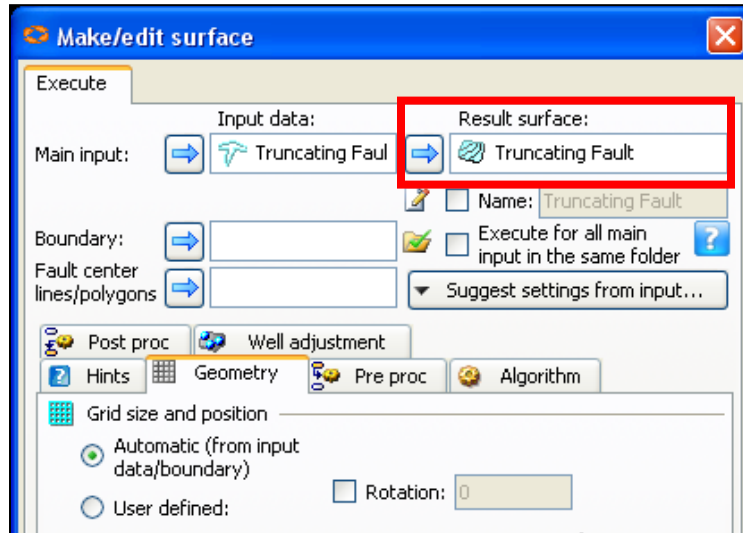

Fig.9.13: The Make/edit surface after adding the **Truncating fault polygon** for both Main input
3. Press **Apply**. A fault sticks surface will be created in Result surface as shown in Fig. 9.13.